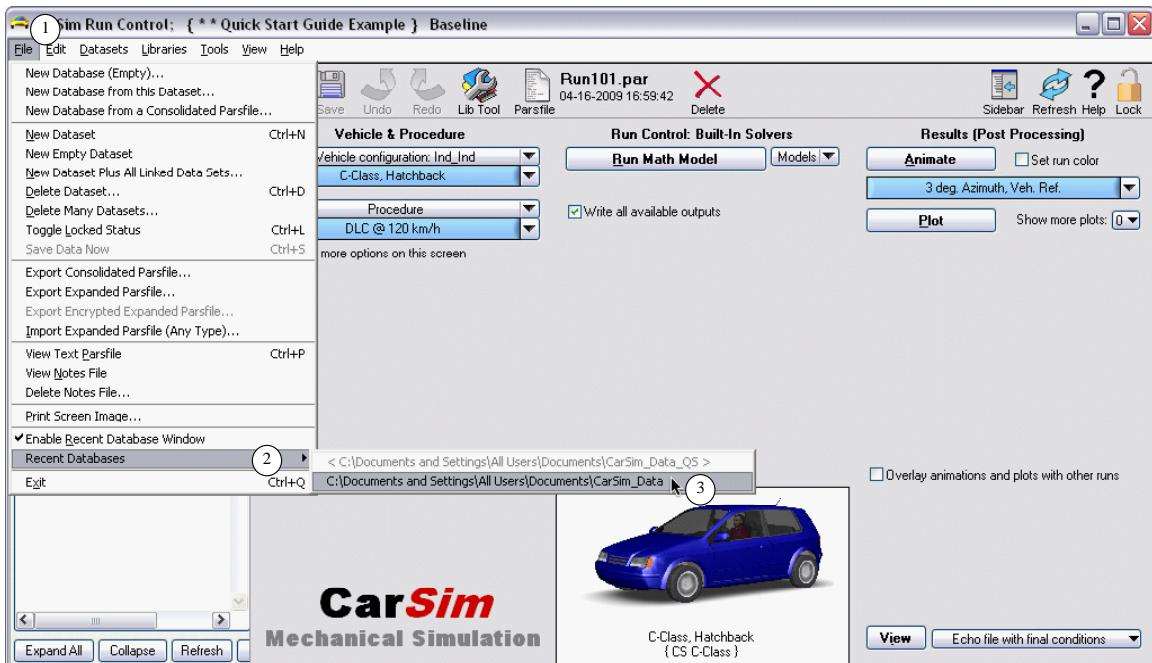

Figure 68. Using the **File** menu to move between databases.
2. Select the **File** menu ① item **Recent Databases** ② to see a list of recently used databases (Figure 68). It should include the current one created for the quick-start tutorial in Chapter 2 (dimmed) and the database folder created when you originally installed CarSim ③. Choose the folder created when CarSim was installed. (In the figure, the original CarSim data folder is C:\Documents and Settings\All Users\Documents\CarSim_Data.)